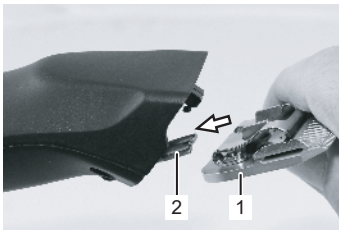

Fig. 17
6. Fit the favoured clipperhead to the blade hinge and fold it on to the switched-on clipper by light pressure (fig. 17, 18, 19).